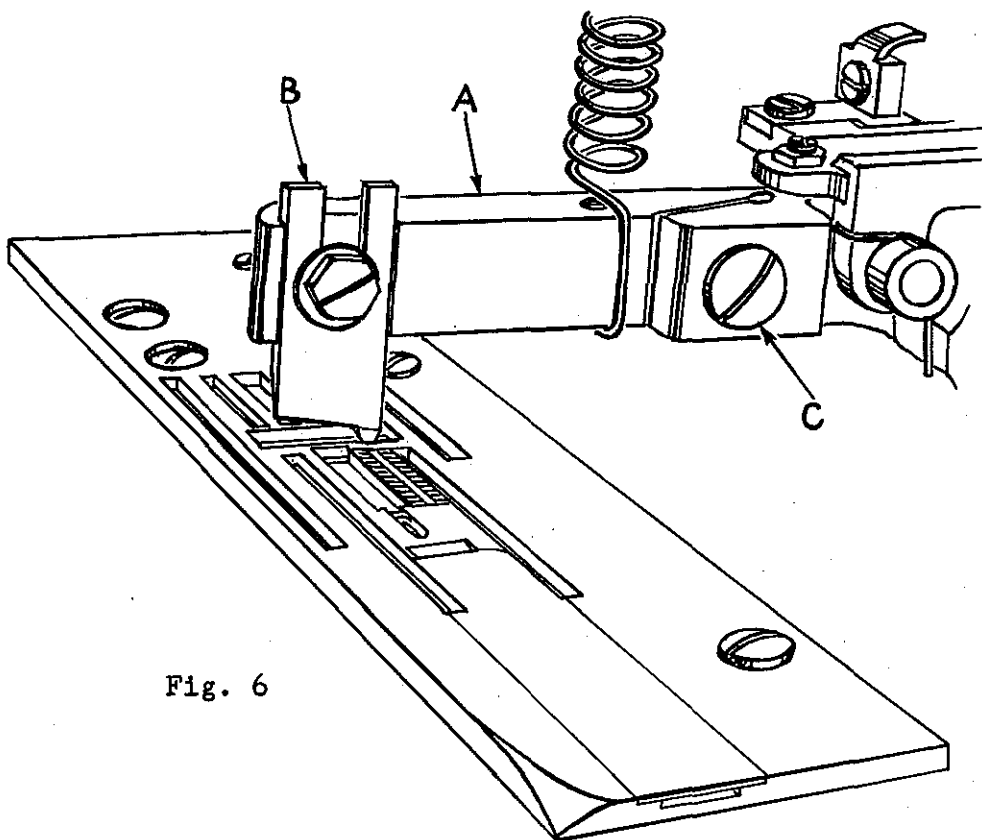
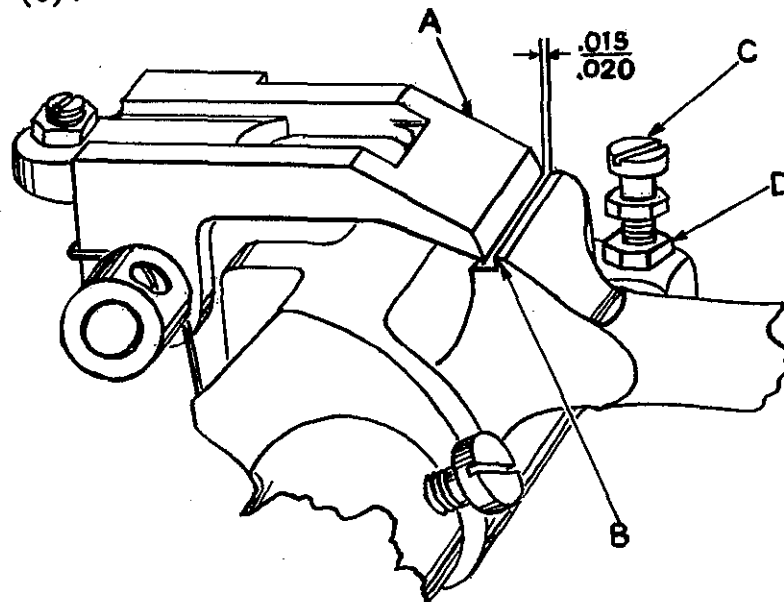

Fig. 6
Fig. 9
The upper tape cutter knife (B, Fig. 6) must be set after the tape cutter knife bar (A) has been correctly located. The knife should then be positioned so that the highest point of its cutting edge passes the cutting edge of the lower knife by  $1/32$  inch when the knife bar is in its lowest position.
The two cutting edges must exert a pressure against one another. The amount of pressure should be such that it can be felt in the upper tape cutter knife bar when the knife bar is pressed down with the finger. The pressure is obtained by adjusting the screw (C, Fig. 6) in the upper tape cutter knife bar. Turning screw to the right adds pressure against lower knife, turning screw to the left acts the reverse.
After the upper tape cutter knife (B, Fig. 6) has been temporarily assembled in the upper tape cutter bar (A), set the bar height by manipulating adjusting screw (C, Fig. 9) so that .015 to .020 inch distance remains between the point of driving pawl (A, Fig. 9) and the point of ratchet lever (B)